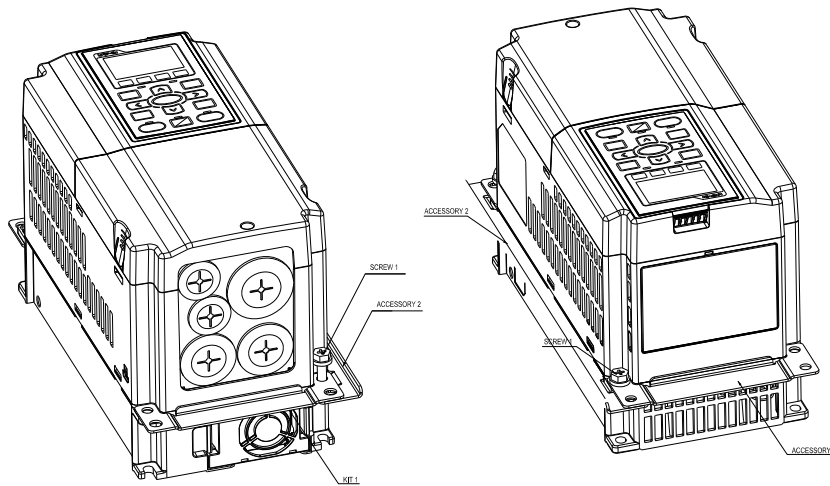

Figure 1
1. Install accessory 2 & 3 by fastening 2 of the screw 2 (M6). Screw torque: 25–30 kg-cm / [21.7–26 lb-in.] / [2.5–2.9 Nm] (figure 1)